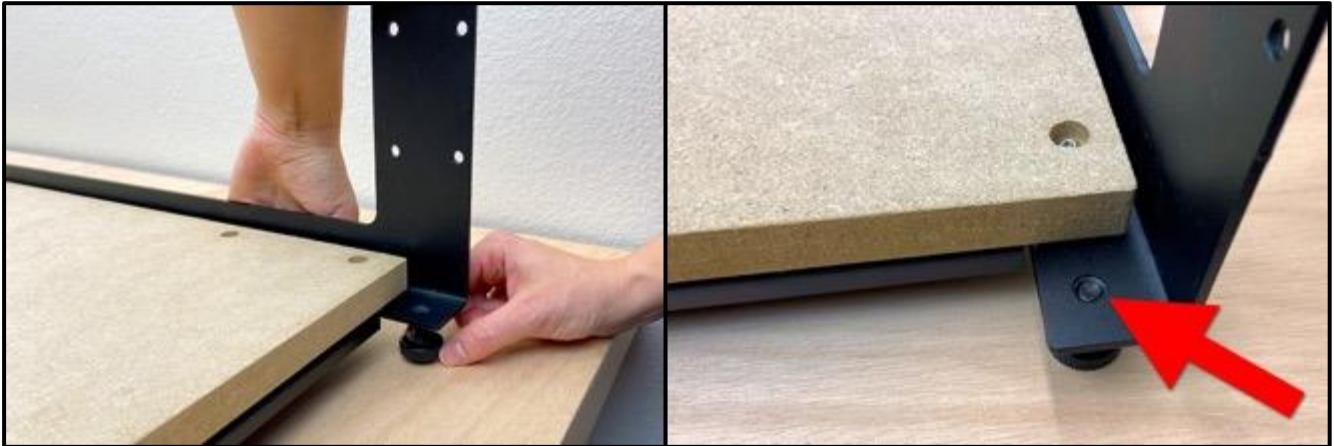

Figure 2-13
1. Carefully lift each corner of the baseframe and screw in the four adjustable leveling feet, two per endplate, as shown in *Figure 2-13*.
2. Screw in each adjustable leveling foot until it is flush with the endplate as shown in *Figure 2-13*.